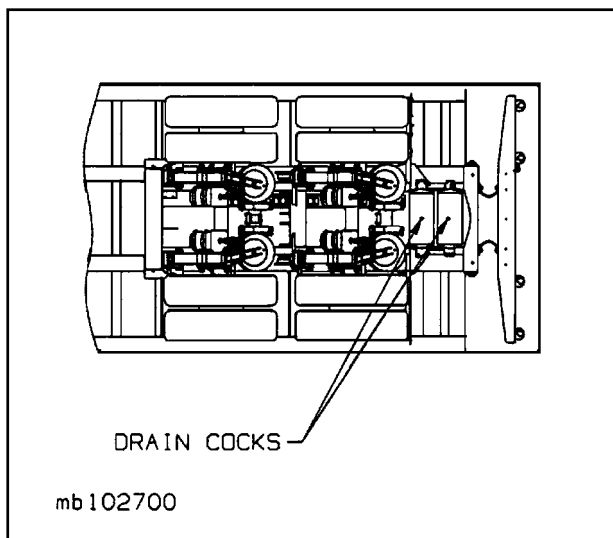

Figure 4-11 Drain Cock Locations
- d. Drain air reservoir daily. A drain cock on the bottom of each air reservoir vents the tank to drain collected water and oil. If held open, air pressure in the tanks is relieved, causing the emergency or parking brakes to be applied (See Figure 4-11).